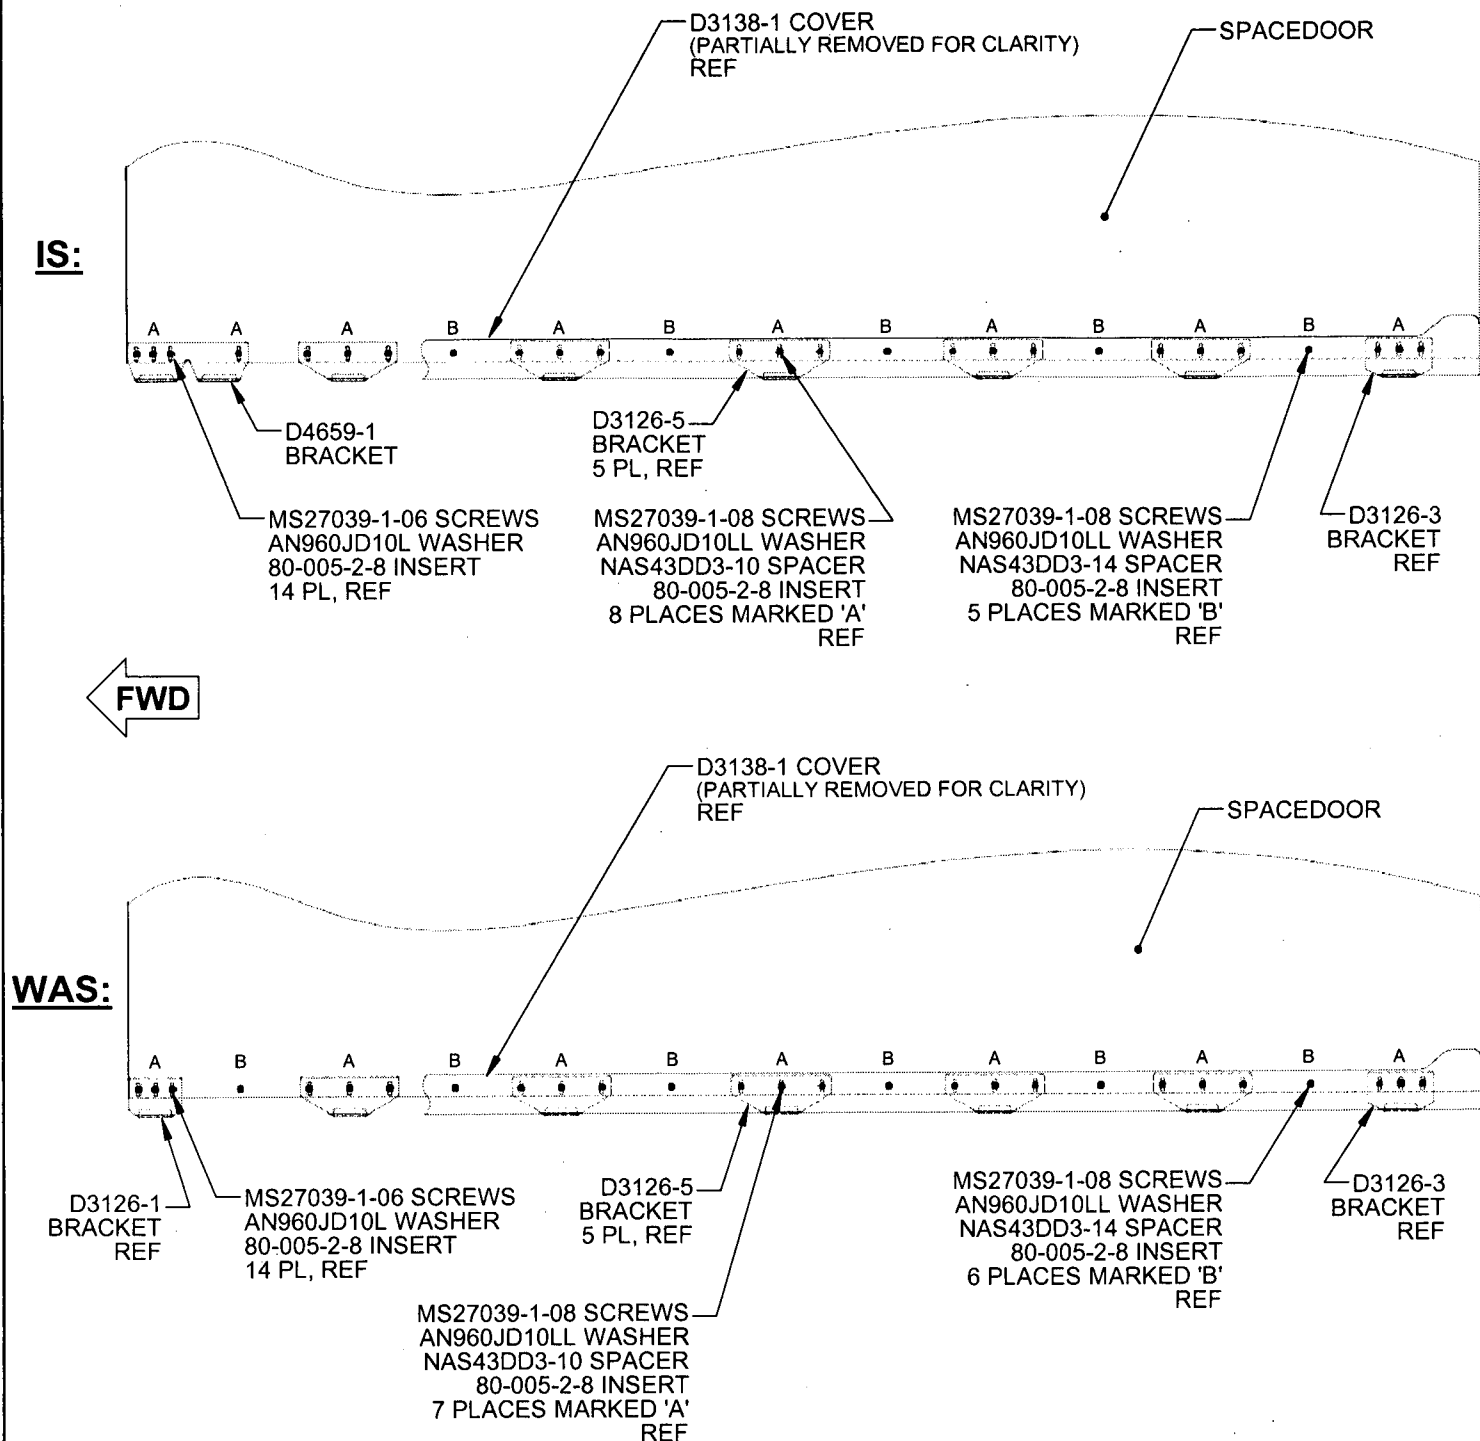

FIGURE 1: BRACKET INSTALLATION
- 2.3 Install the D4659-1/-2 bracket (as applicable) in lieu of the D3126-1 bracket removed in step 2.2 as shown in Figure 1 of this DSI. Form D4659-1/-2 brackets as required to fit the door contour.